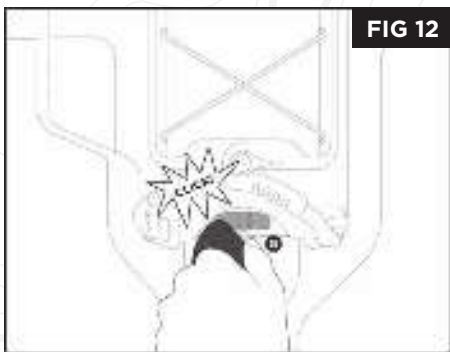

FIG 12
- Deploy the drive by pulling the handle on ePDL+™ Drive to release the stow clip. Guide the prop and lower unit through the console opening. Secure drive with the drive lock knob (**B**) (**fig 12**).